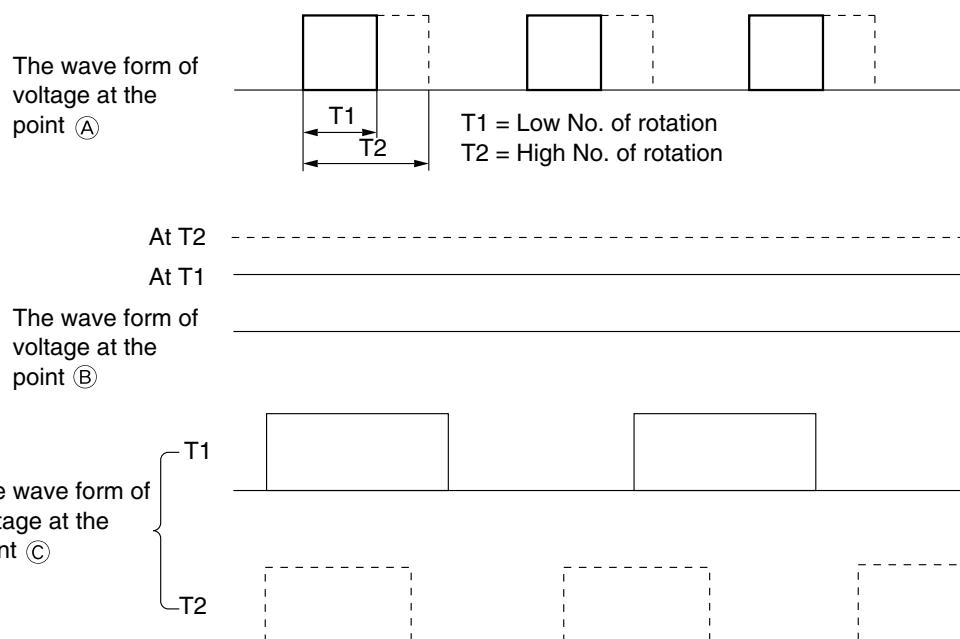

Fig. 6-2
- The 15.7 kHz PWM pulse shown in Fig.6-2 from the micro computer pin ⑩ is output to point A. The width of this pulse changes with instruction number of rotations.